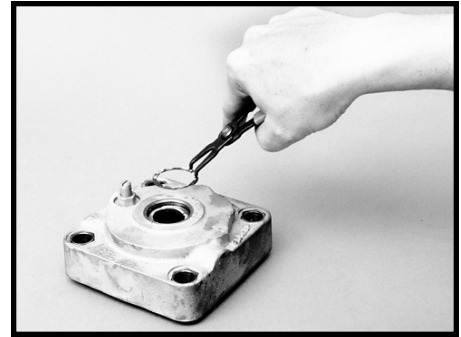

Figure 66
28. Remove retaining ring (5). SEE FIGURE 66.